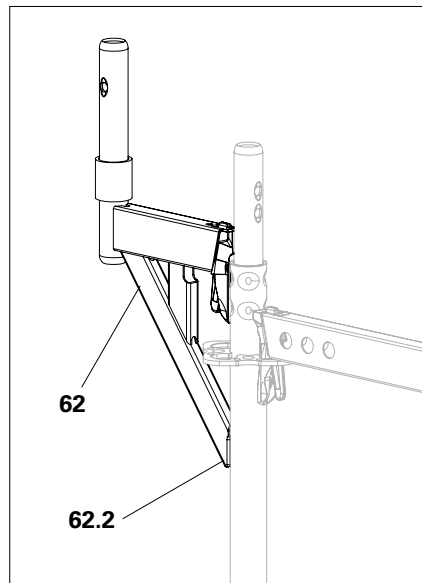

Fig. A6.02
1. Attach Console Bracket UCB 25 (**62**) to rosette. The formwork half (**62.2**) must rest against the vertical tube. (Fig. A6.02)